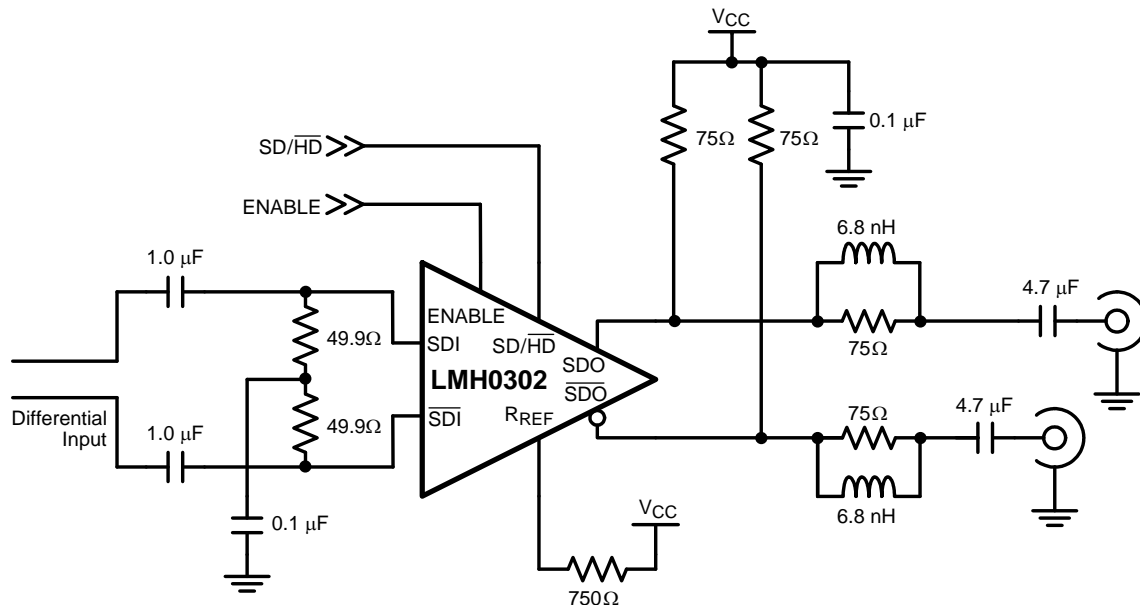

Figure 4. LMH0302 Cable Driver
SDI cable drivers like Texas Instruments LMH0302 and LMH0307 (dual output) have their outputs terminated directly to  $V_{CC}$ , as shown in Figure 4. Given that, any power supply noise or ripple on  $V_{CC}$  is transmitted directly on the outgoing video signal and will show up at the input of the receiving product as additive jitter. Like the cable EQ the cable driver's  $V_{CC}$  ripple limitation is data rate dependent. Slower data rates have a larger unit interval (UI) from a time based perspective, therefore, with a larger UI, more allowable jitter and correspondingly more  $V_{CC}$  ripple are acceptable.